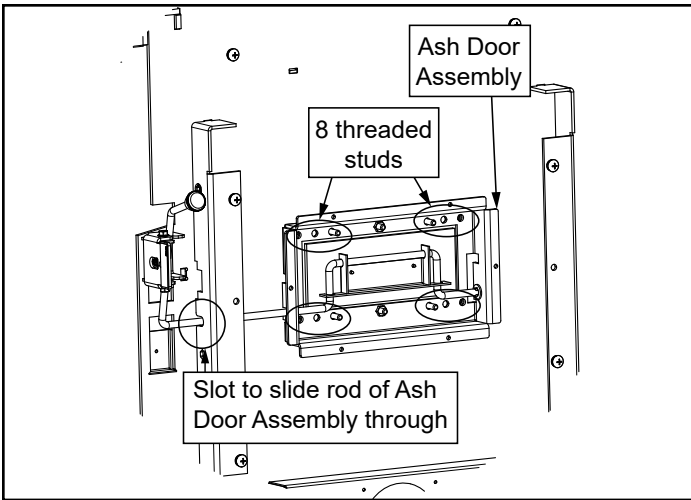

Figure 19.1
7. Install ash door assembly by sliding the rod at an angle into the slot on the left side (**Figure 19.1**).
8. Slide the ash door over the 8 screws protruding from the bottom of the appliance. Secure with nuts and washers using 7/16 socket wrench (**Figure 19.1**).
9. Install ARS latch by sliding latch assembly over 2 threaded studs protruding from the bottom on the left hand side of the appliance. Secure by using two nuts use 7/16 socket wrench (**Figure 19.1**).